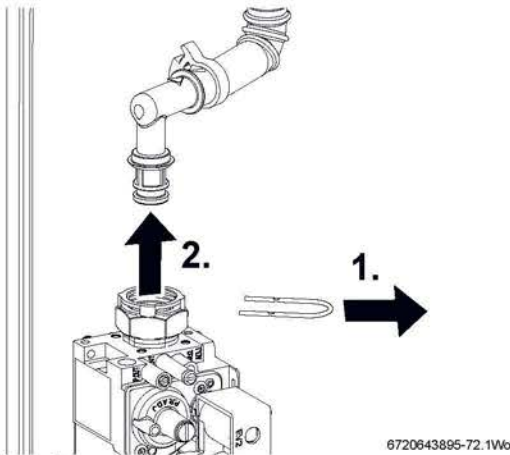

Fig. 76 Gas valve upper connection
- 1. Refer to figure 76 and re move the wire clip from the gas valve outlet.
- ▶ Remove wire clip from gas valve outlet then pull gas pipe free from the gas valve (see figure 76).